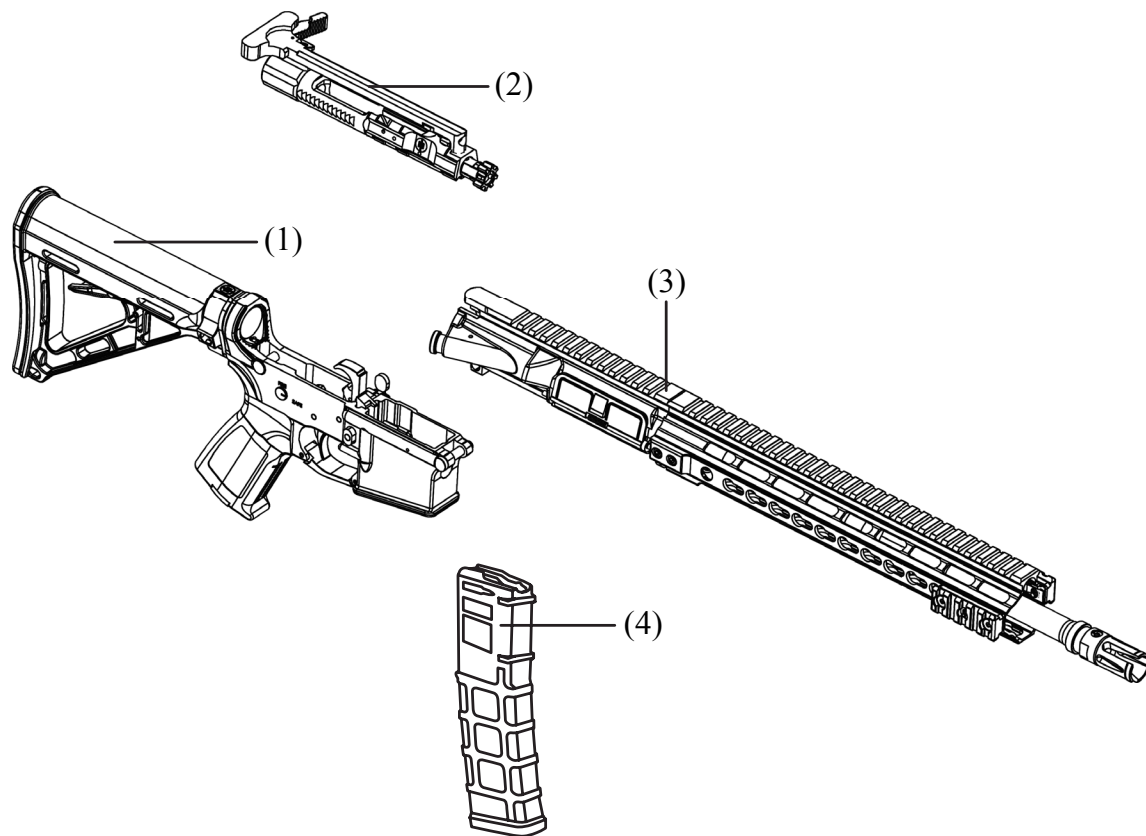

Figure 2.16
Remove Magazine (Fig. 2.16, 4), bolt carrier/charging handle assembly (2), and upper receiver and barrel assembly (3) from lower receiver and buttstock assembly (1).